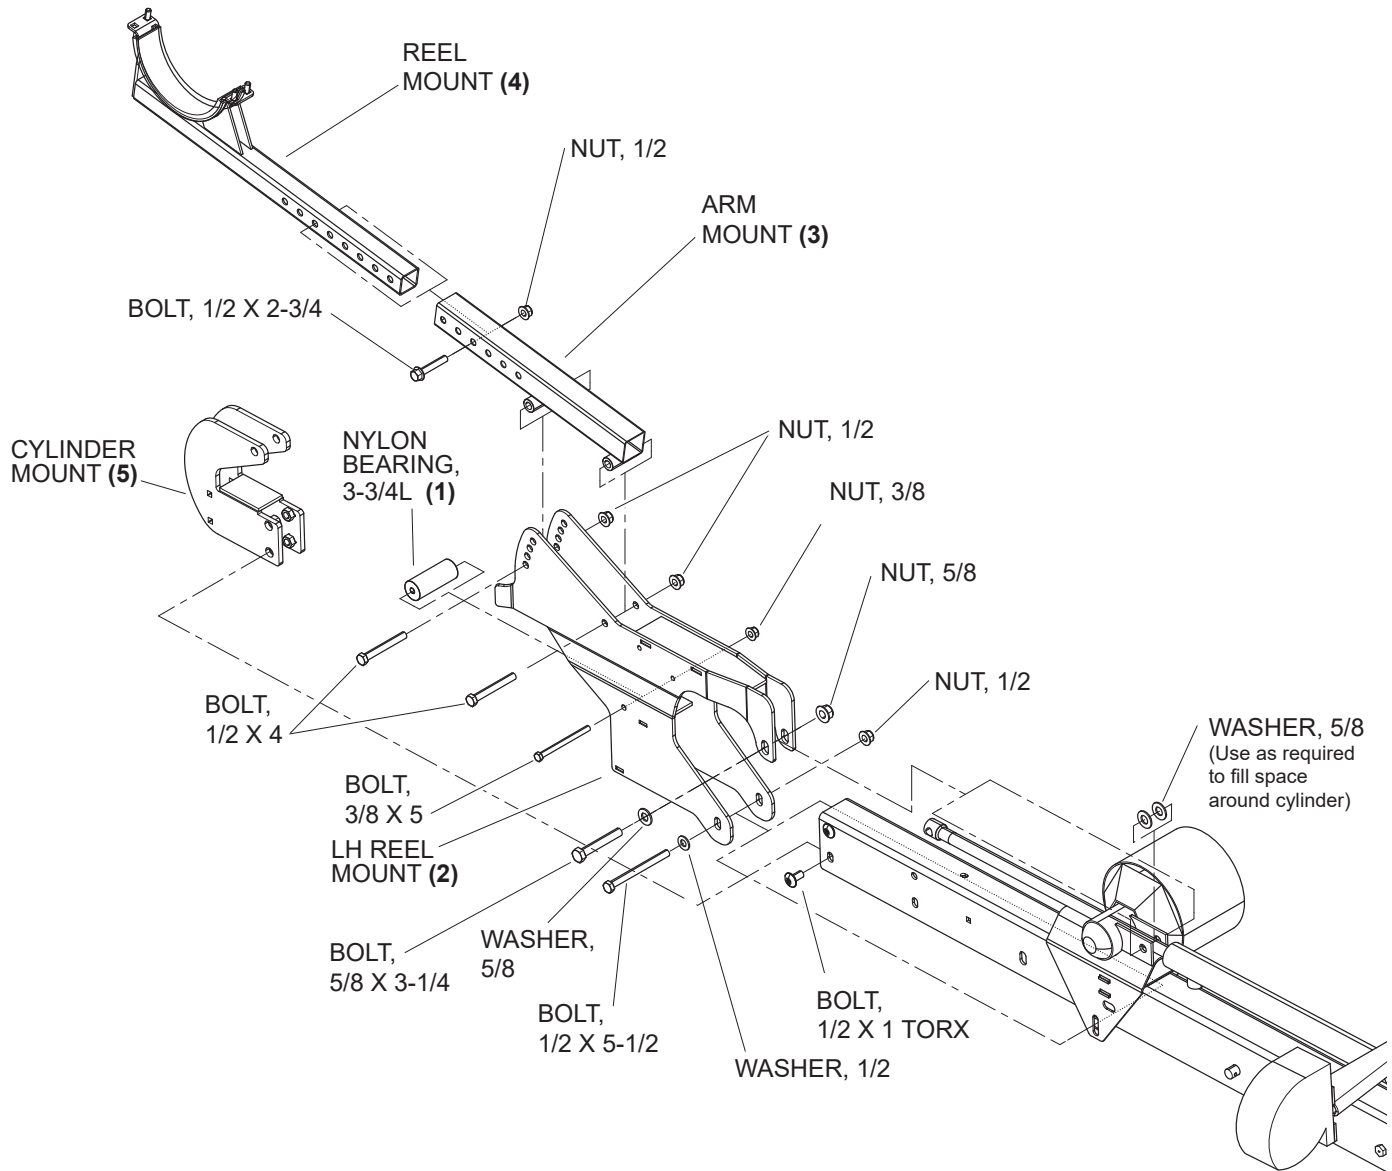

Figure 25: Left reel arm mount assembly (FD1 & FD75 headers)
2. Use a 3/8 x 5" bolt and nut to secure the 3-3/4" nylon bearing **(1)** to the LH reel mount **(2)** (Figure 25). The nylon bearing should rotate freely.
5. Attach the arm mount **(3)** to the LH reel mount **(2)** using two 1/2" x 4" bolts, and nuts. (Figure 25)